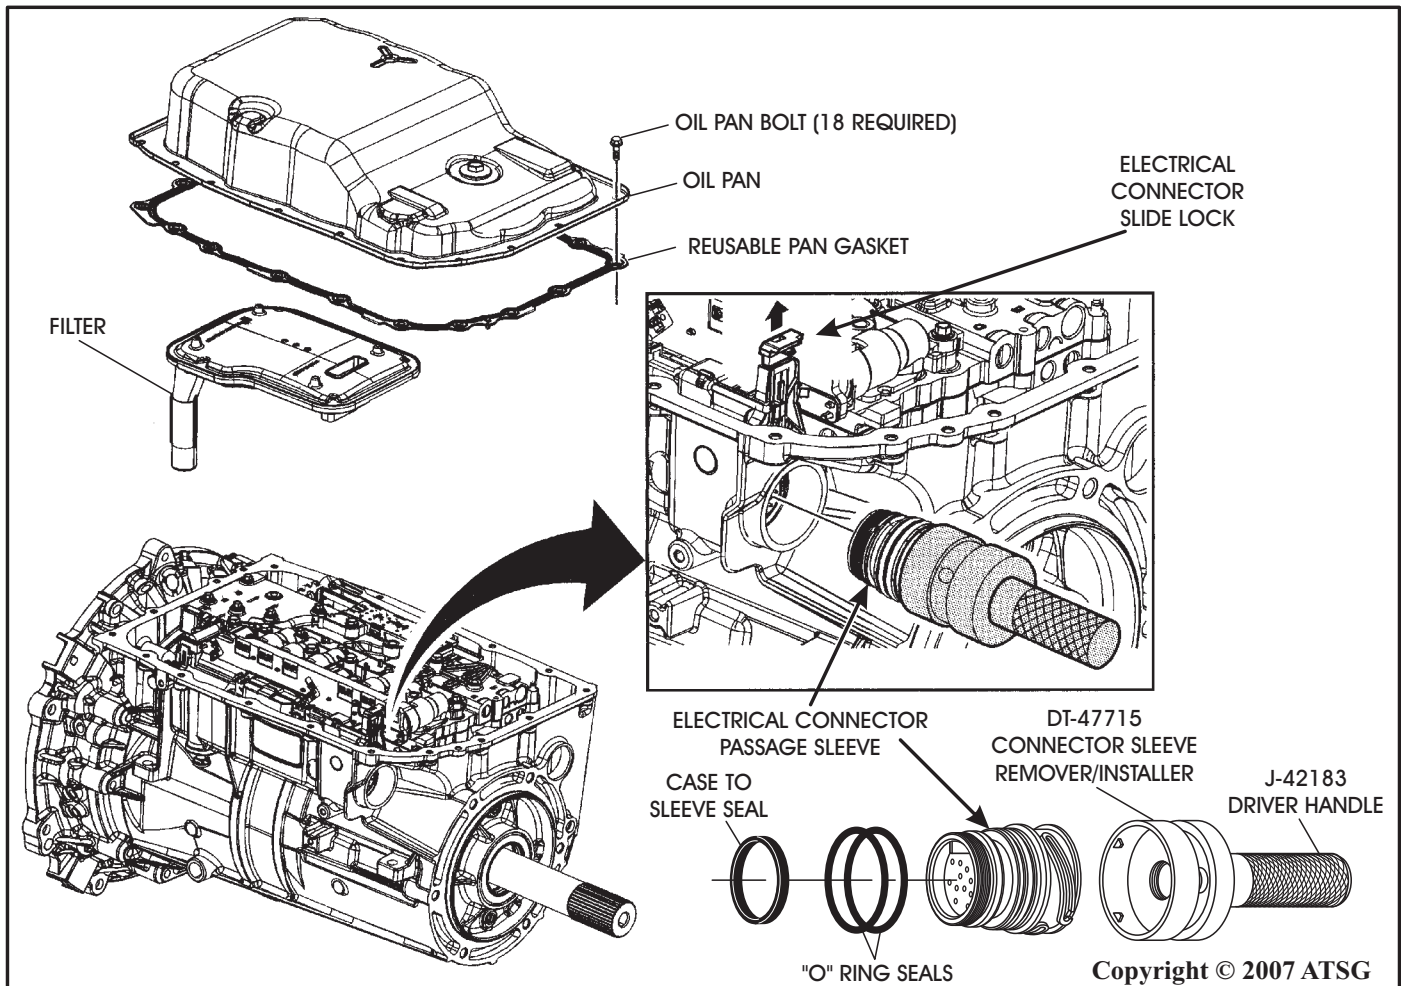

Figure 40
8. Remove the oil pan bolts, oil pan, oil pan gasket and oil filter, as shown in Figure 40.
9. Lift up on the electrical connector slide-lock, as shown in Figure 40, to remove the electrical connector.
11. Remove and discard the electrical connector seal and "O" rings as shown in Figure 40.